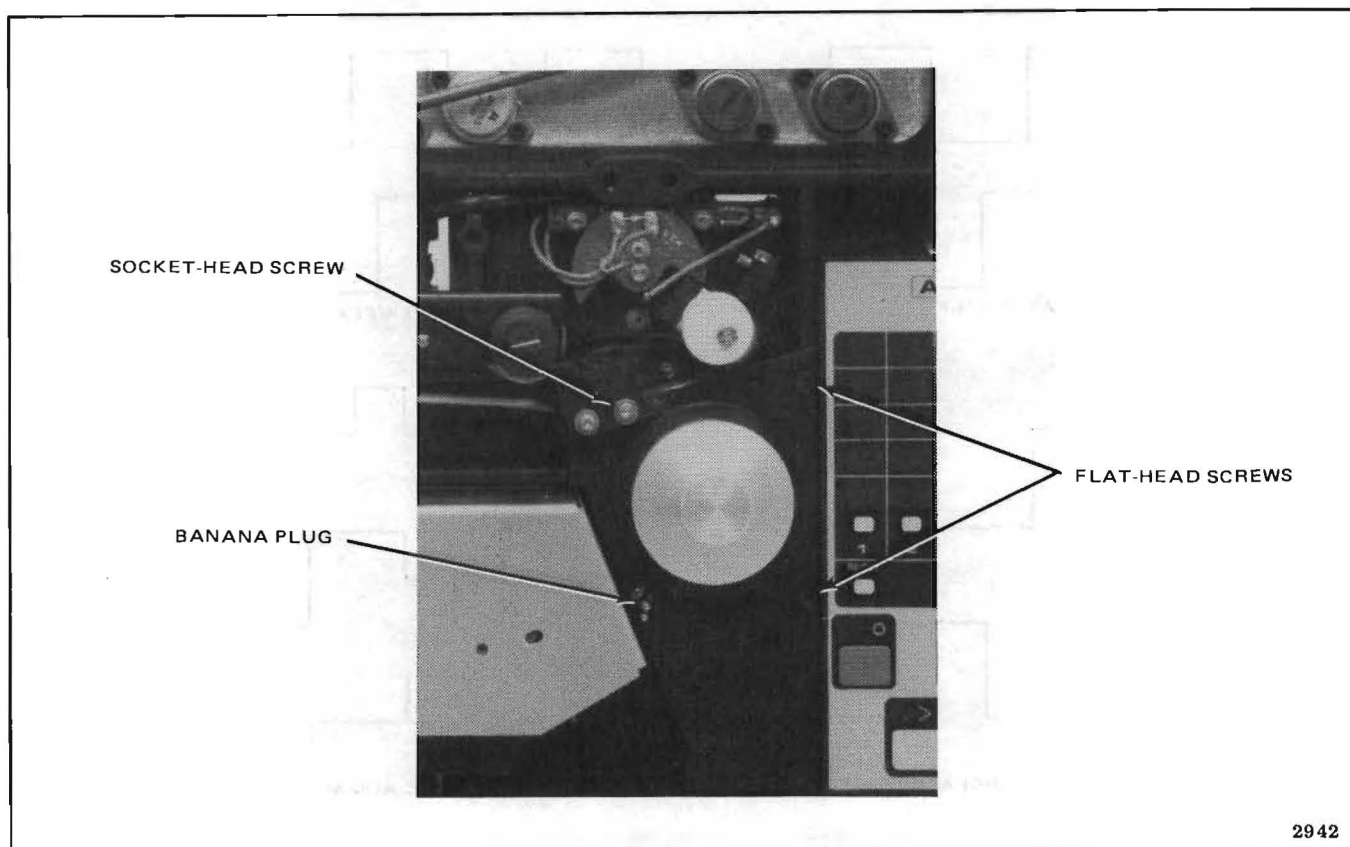

Figure 5-22. Front and Rear Tach, Cover Panel Removal
15. Remove front tach cover panel by removing one flat-head screw and banana plug shown in Figure 5-22.